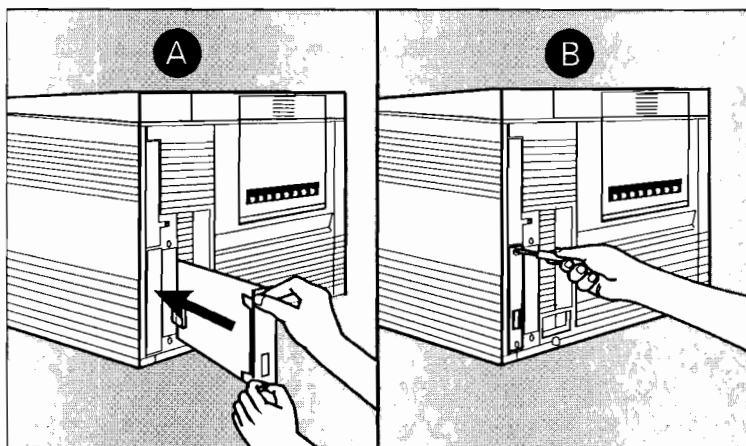

Figure 3-16. Installing the Token Ring Adapter Card
- a. Hold the adapter card by its thumbscrews with the Token Ring (DB-9) connector on the bottom, as illustrated in (A) in Figure 3-16. Push the adapter card firmly into the accessory slot.
- b. Tighten each thumbscrew a little at a time, alternating between the top and bottom screws until the screws are tight. See (B) in Figure 3-16. Tightening each screw a little at a time prevents damage to the card's backplane connector.